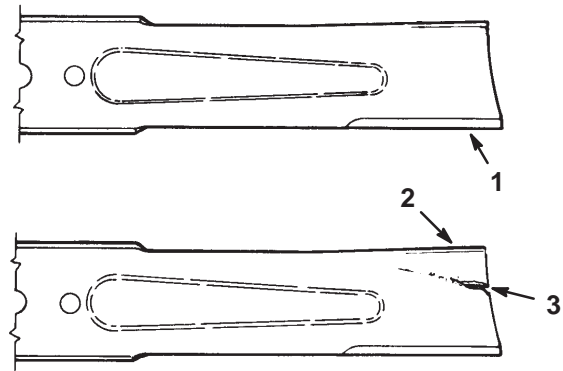

Figure 35
2. Inspect the cutting edges (Fig. 35). If the edges are not sharp or have nicks, remove the blade(s) and sharpen them; refer to Sharpening the Blade(s), page 33.
3. Inspect the blade(s), especially the curved area (Fig. 35). If you notice any damage, wear, or a slot forming in this area (Fig. 35), immediately install a new blade.